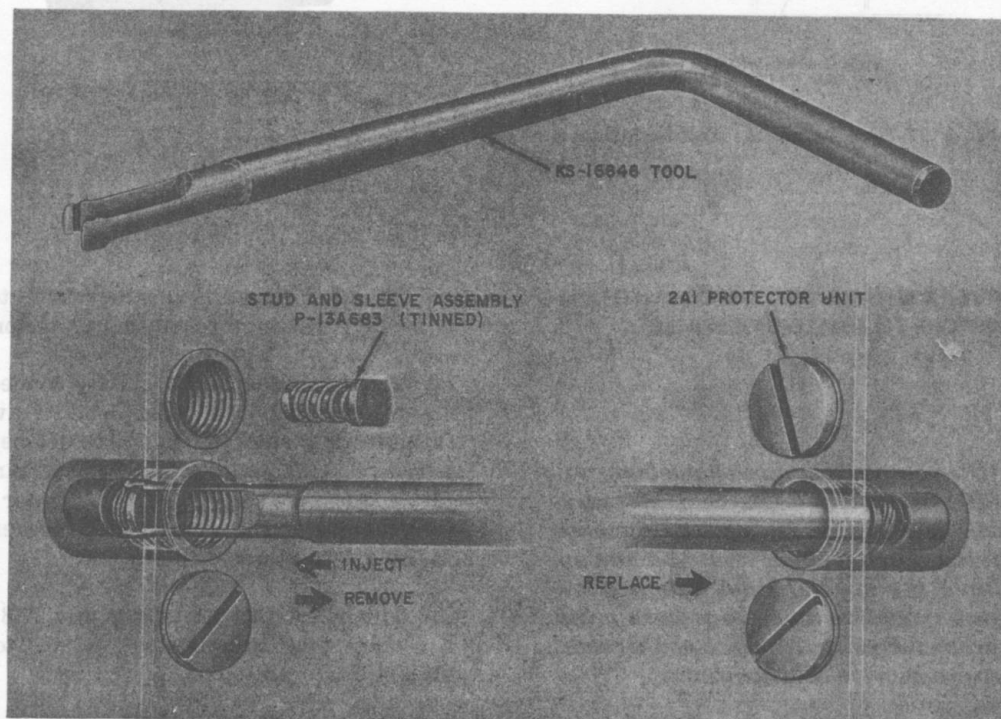

Fig. 47—KS-16646 Tool
15.07 A KS-16646 tool is required to remove damaged stud and sleeve assemblies and to insert the replacement (Fig. 47). Replacement should not be attempted on 106CA (MD) or 111A (MD) protectors.
15.08 The P-13A683 stud and sleeve assembly (Fig. 47) is used in station protectors using 2A1-type protector units and is tinned to ensure a low-resistance path through the protector.